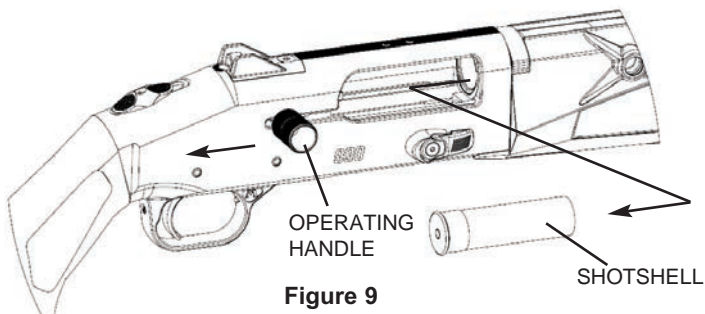

Figure 9
5. With the magazine tube empty, turn the firearm so that the trigger guard is facing downward, keeping the muzzle pointed in a safe direction, pull the operating handle fully rearward (Figure 9). This will eject the shotshell from the chamber of the firearm and lock the action in the "OPEN" position.